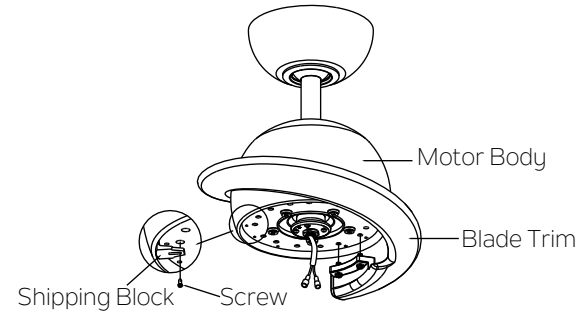

Fig. 15
Step 1. Remove and discard the shipping block by removing the screw. Line up the holes in the blade trim with the holes in the bottom of the motor body (marked A-A). And tighten them with two pre-installed screws provided. Repeat steps for the remaining blade trim. (Fig. 15)